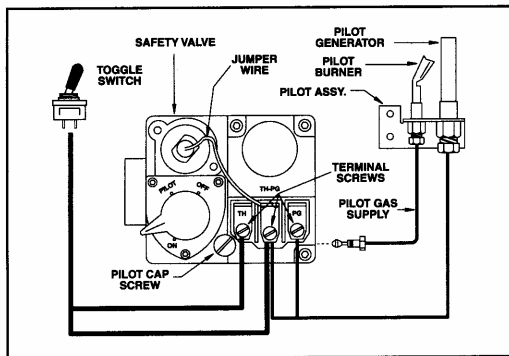

Figure 2
- Connect one of the spade clips on the wires from the generator (Item 5) to the terminal screw marked "PG" and the other spade clip to the terminal screw marked "TH-PG." on the safety pilot valve (Item 2). Tighten screws. (Note: Two wires, one from the Toggle Switch Control and one from the Generator, should be connected to the terminal screw marked "TH-PG", BE SURE THE JUMPER WIRE IS IN PLACE (Figure 2).